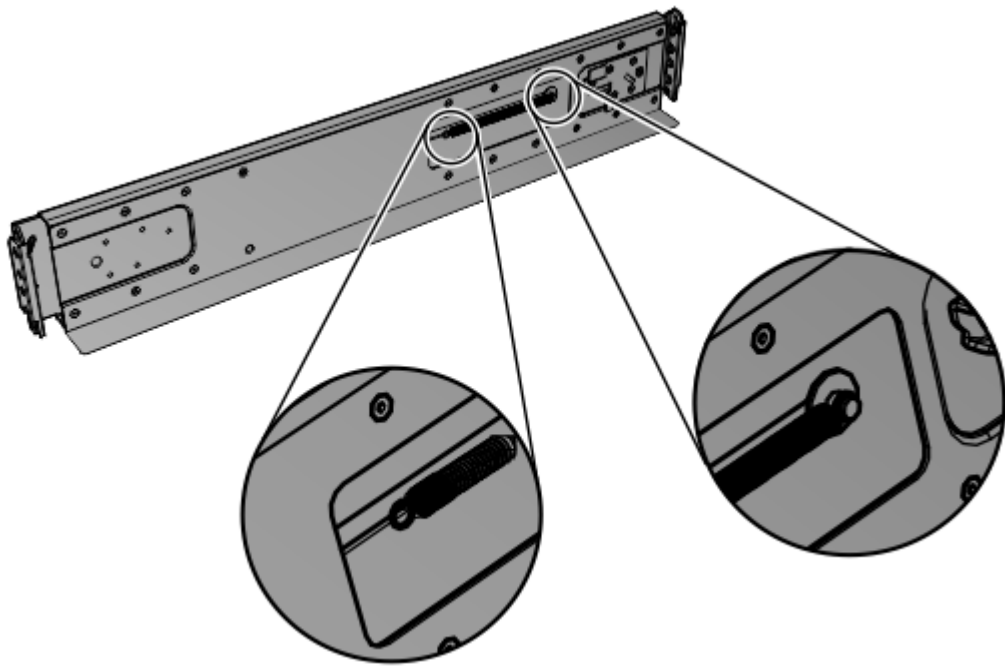

Figure 12. Installing the rail spring
- a) Push one looped end of a spring over one stud on the inside of the rail. (See Figure 12 on page 17.)